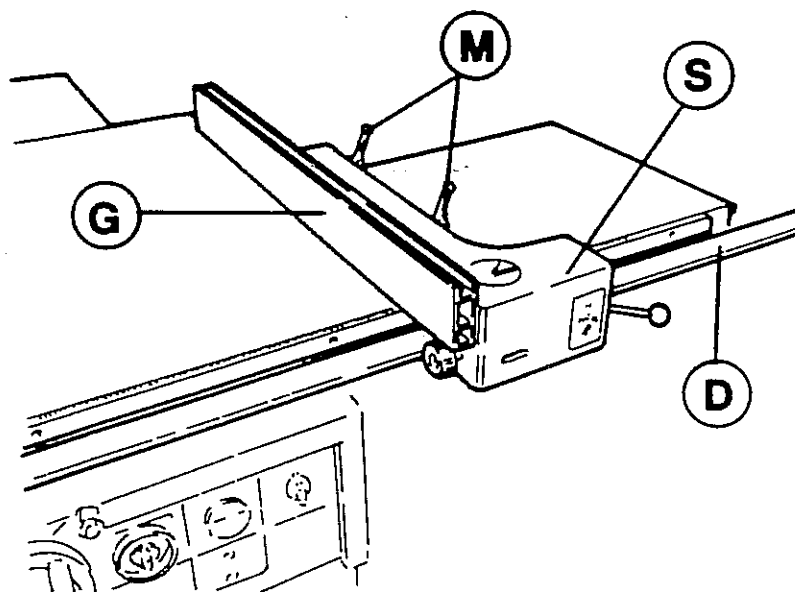

Fig.11
- Fit support (S) to rod (D fig.11)
- Fit fence (G), adjust the length, then fasten it by two grips (M)